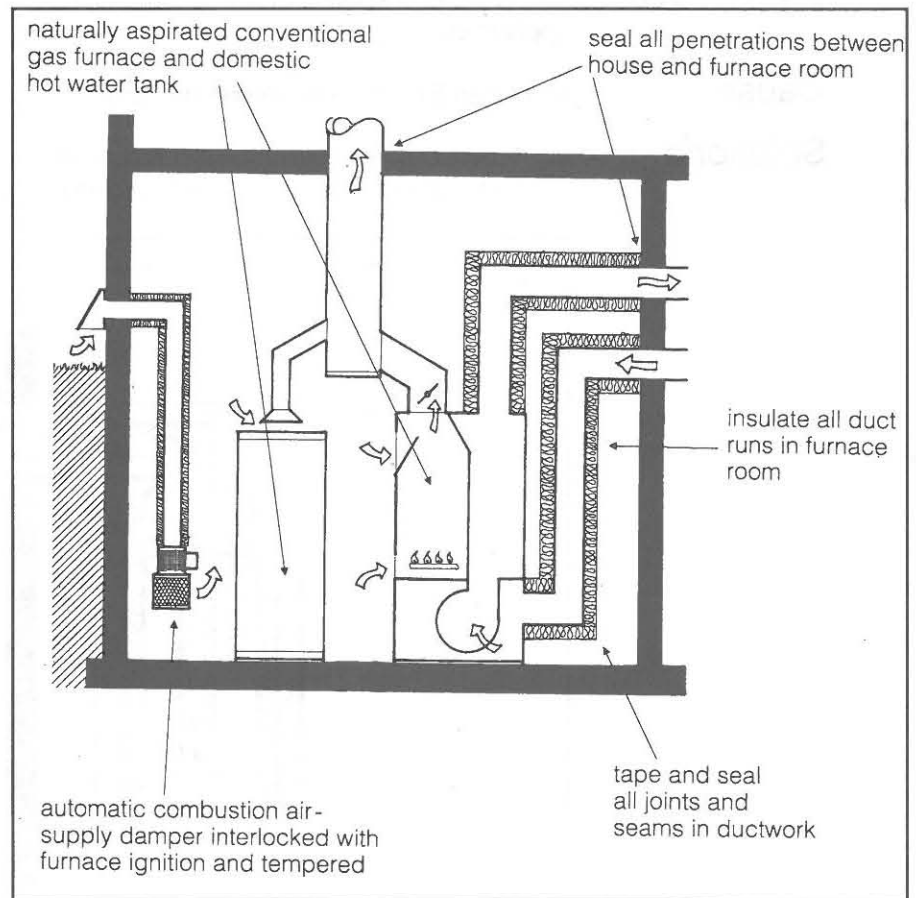

Fig. 11. Isolated furnace room
- Place conventional, naturally aspirating gas furnaces and domestic water heaters outside the house envelope. This is typically done by placing them in an attached insulated garage or isolated furnace room (*fig. 11*).